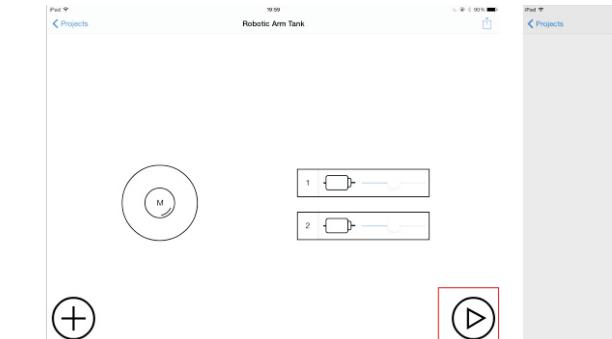
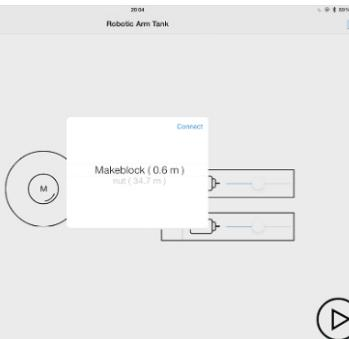

Figure 3
Figure 4
- 5、Put your smart device close to robot, touch the play button(Figure3)to find Bluetooth device, and then connect the robot to your smart device.(Figure 4)